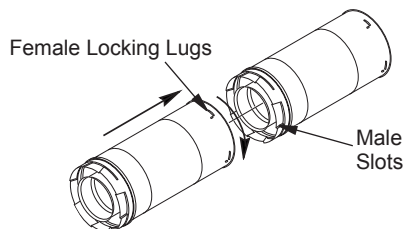

Figure 8 - Vent Pipe Connections
Twist-Lock Procedure: Female ends of pipes have locking lugs (indentations). These lugs will slide straight into matching slots on male ends of adjacent pipes. Push pipe sections together and twist one section clockwise approximately one-quarter turn until sections are fully locked (see Figure 8). *Note: Horizontal runs of vent must be supported every three feet. Use wall straps for this purpose.*
2. Assemble desired lengths of pipe and elbows necessary to reach from fireplace flue up through firestop. Be sure all pipe and elbow connections are fully twist-locked (see Figure 8, page 11).